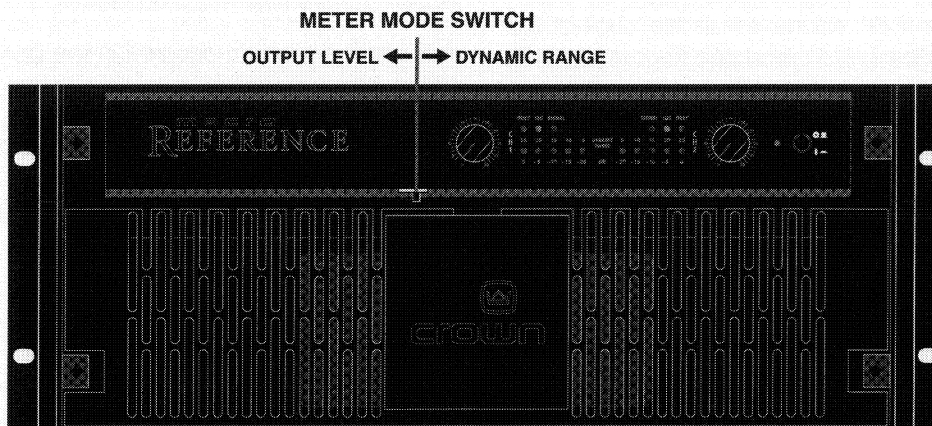

Fig. 4.3 Meter Mode Switch
3. Locate the Meter Mode switch as shown in Figure 4.3. Slide it to the left if you want the meter to function as an output level meter. Slide it to the right if you want it to indicate the dynamic range of the output signal.